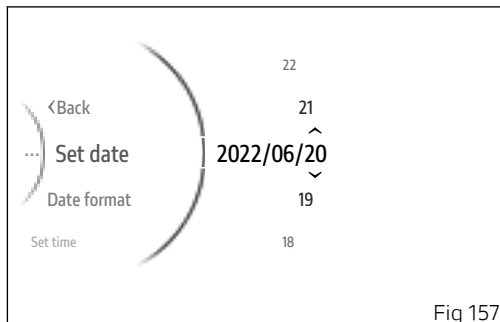

Fig 157
The arrows and available values appear for the third parameter, which is the day in the example shown here (Fig 157). Use buttons (1) and (2) to scroll and select the desired value. Press ENTER (3) to confirm.